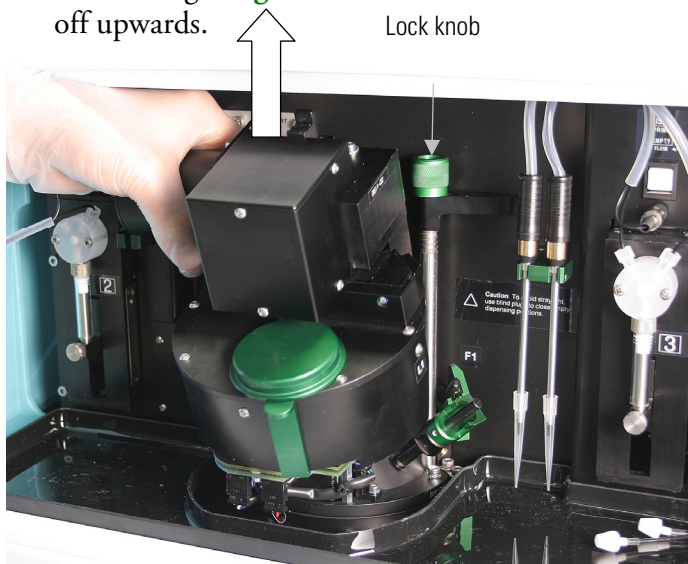

Figure 5–54. Removing the Varioskan LumiSens optics
3. Remove the Varioskan LumiSens optics (Figure 5–54) by unfastening the **green** lock knob. Turn the lever and lift the optics off upwards.